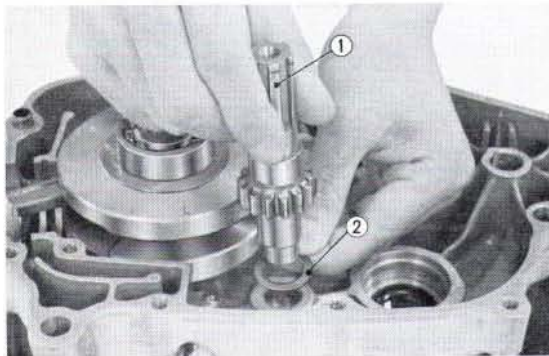

Fig. 2.43 ① Main shaft ② Thrust washer
2. Install thrust washers at both ends and assemble the main shaft. (Fig. 2.43)